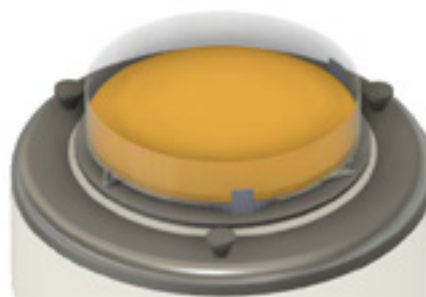

Figure 3 – Petri dish placed on crank supports
- The Petri dish is now placed on the crank supports as shown in Figure 3